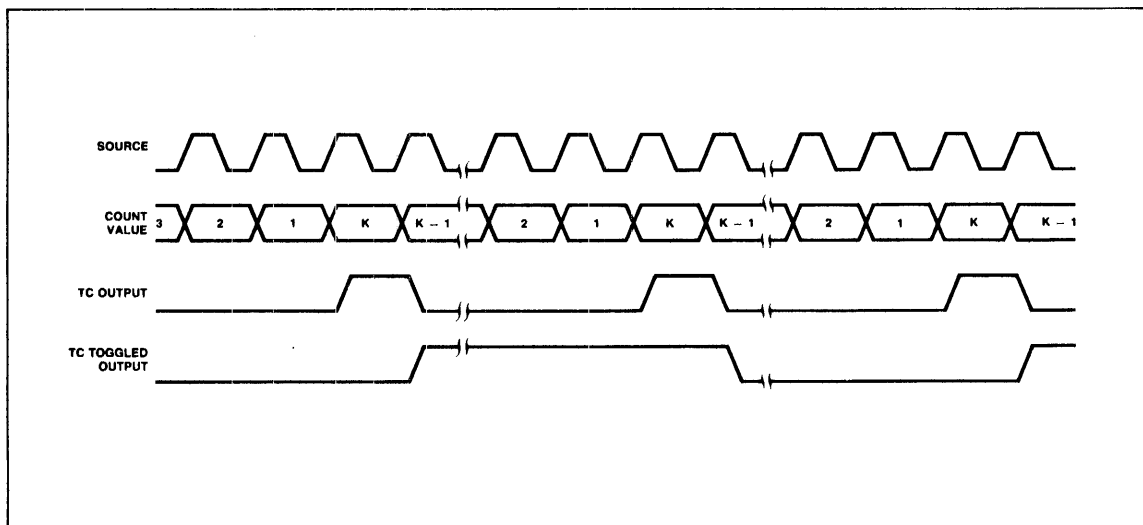

Figure 3-18. TC Waveform Format
One output form available is called Terminal Count (TC) and represents the period of time that the counter reaches an equivalent value of zero. Figure 3-18 shows a Terminal Count pulse and an example context that generated it. Notice that the TC width is determined by the period of the counting source. Figure 3-18 assumes active-high source polarity, counter armed, gate active, counter decrementing and a reload value of K.